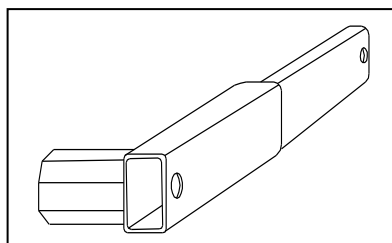

Fig. 16
- If the blockage is too hard/severe, you need to use the reverse key, see figure 16. It is located at the right side of the net box on the outgoing shaft from the gearbox. Only use the reverse key when the tractor has been stopped and the PTO shaft has been disconnected.